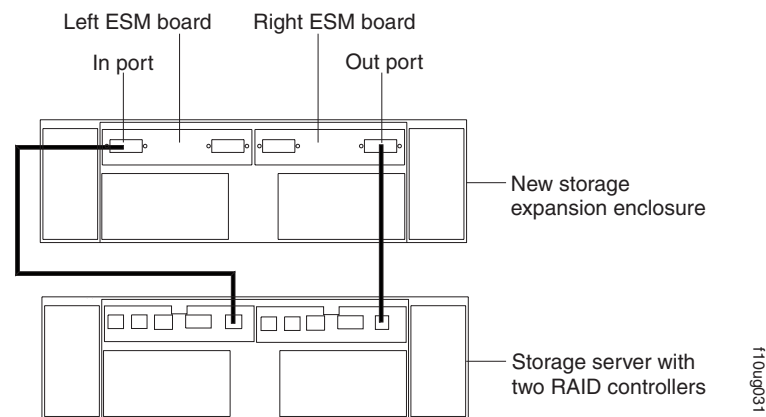

Figure 52. Adding a storage expansion enclosure
2. Use the following procedure and Figure 52 to connect a single storage expansion enclosure to the storage subsystem: